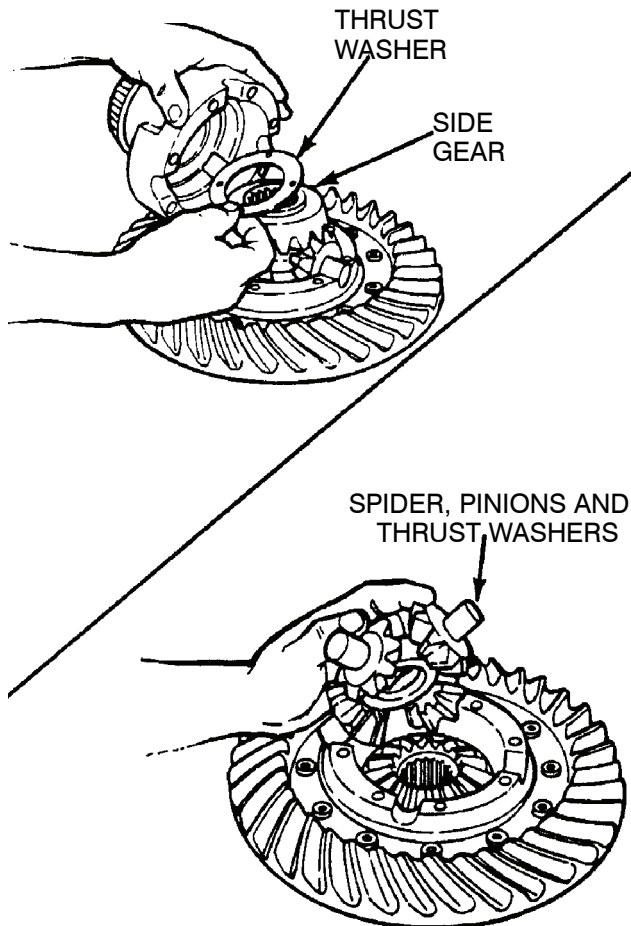

Figure 34. Main Differential Disassembly.
- (2) Remove the capscrews and the washers that fasten the halves of the main differential together.
- (3) Remove the spider, the pinions, the thrust washers and the side gears from the case halves. Figure 34.